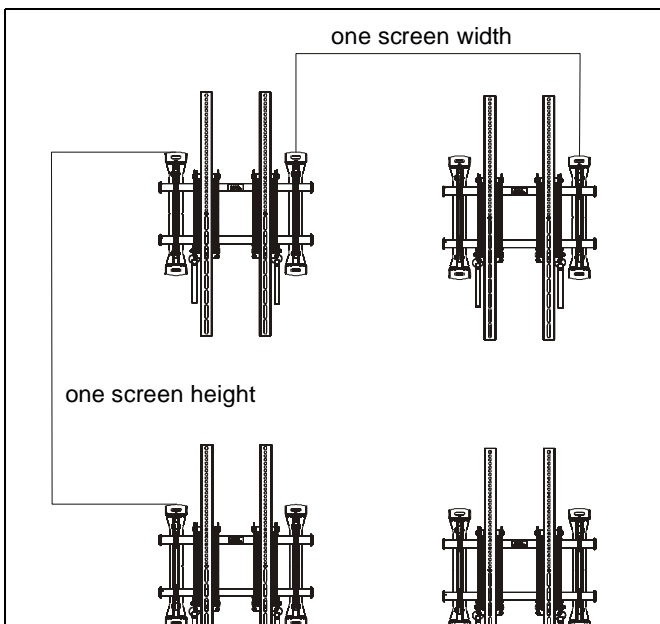

Figure 1
**IMPORTANT !:** For video wall mounting, mounts should be installed one screen height apart vertically and approximately one screen width apart horizontally. (See Figure 1)